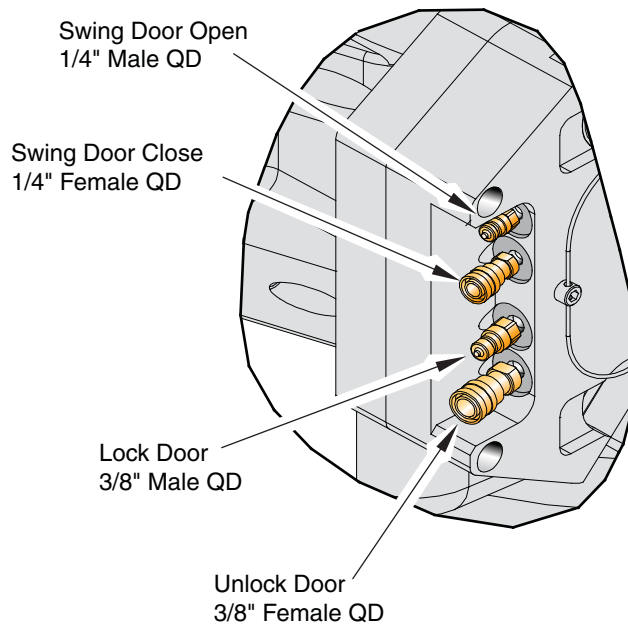

Figure 4-10. 22" Door Hose Bundle Connections
3. On the 22" door assembly being serviced, connect the quick-disconnect fittings on the hose bundle adapter to the mating quick-disconnect fittings on the lockrod drive (see Figure 4-10 on page 4-24). The fittings are configured with two different sizes and genders to facilitate correct connection.